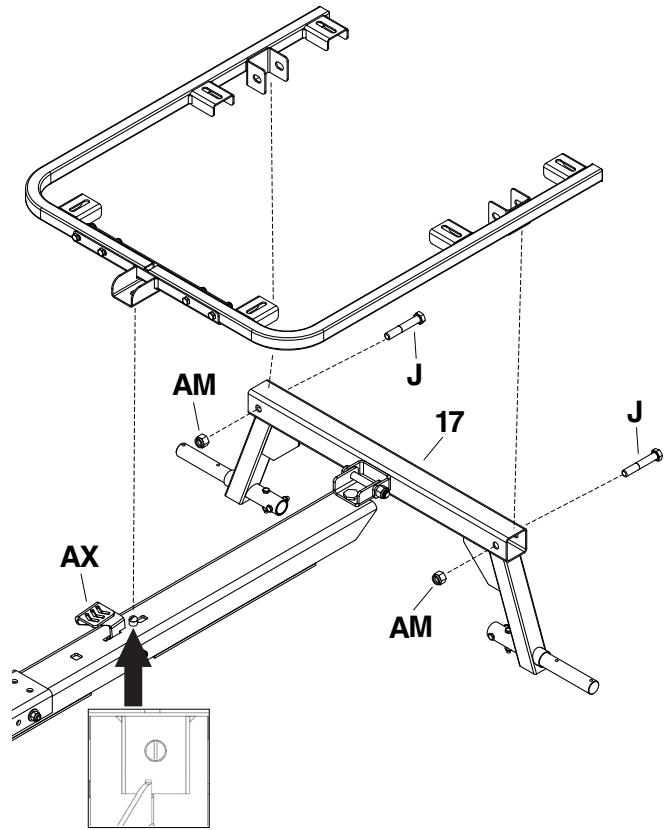

FIGURE 11
- Install the frame assembly onto the rear tongue (18) and axle frame assembly (17) as shown below.
- Press down on the foot pedal latch (AX) to allow the front bracket on the frame assembly to sit around the screw (Q). Release the foot pedal latch (AX).
- Install a 1/2" x 3" bolt (J) through the frame assembly and axle frame assembly (17) from the rear. Repeat on the other side.
- Secure both bolts with a 1/2" nylock nut (AM). Tighten hardware. See figure 11.